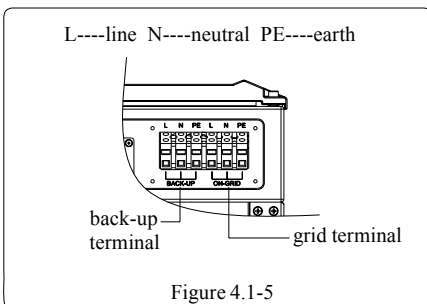
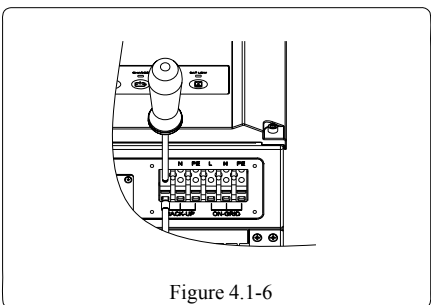
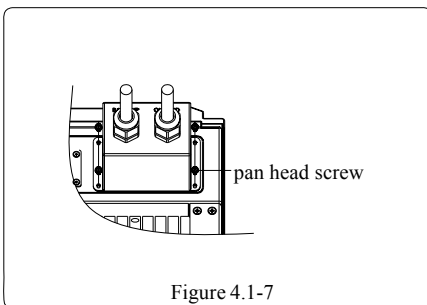

Figure 4.1-5
Figure 4.1-6
Figure 4.1-7
8. Insert AC terminals into the corresponding holes and fasten them by screwdriver, then fasten AC cover with pan head screws in accessory bag. Refer to Figure 4.1-5、 Figure 4.1-6 、 Figure 4.1-7.